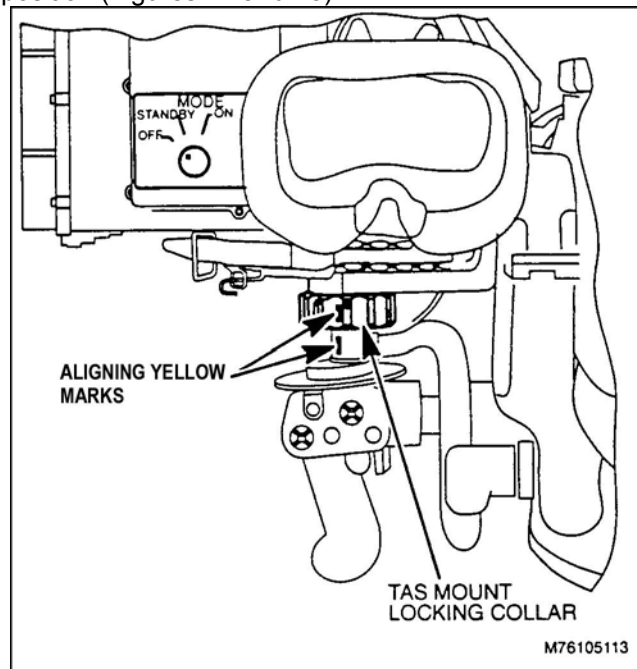

Figure 14. Aligning yellow marks.
- h. Lock TAS into position (Figures 14 and 15).